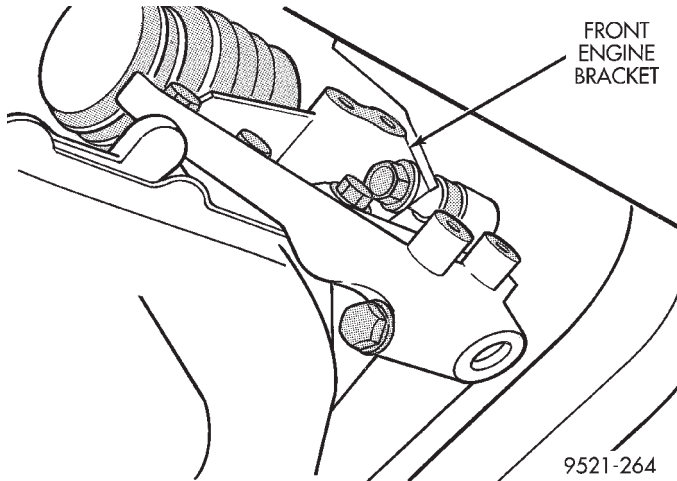

Fig. 32 Front Engine Mount Bracket (Aluminum)
(22) Remove (3) bolts on front engine mount bracket (aluminum) (Fig. 32).